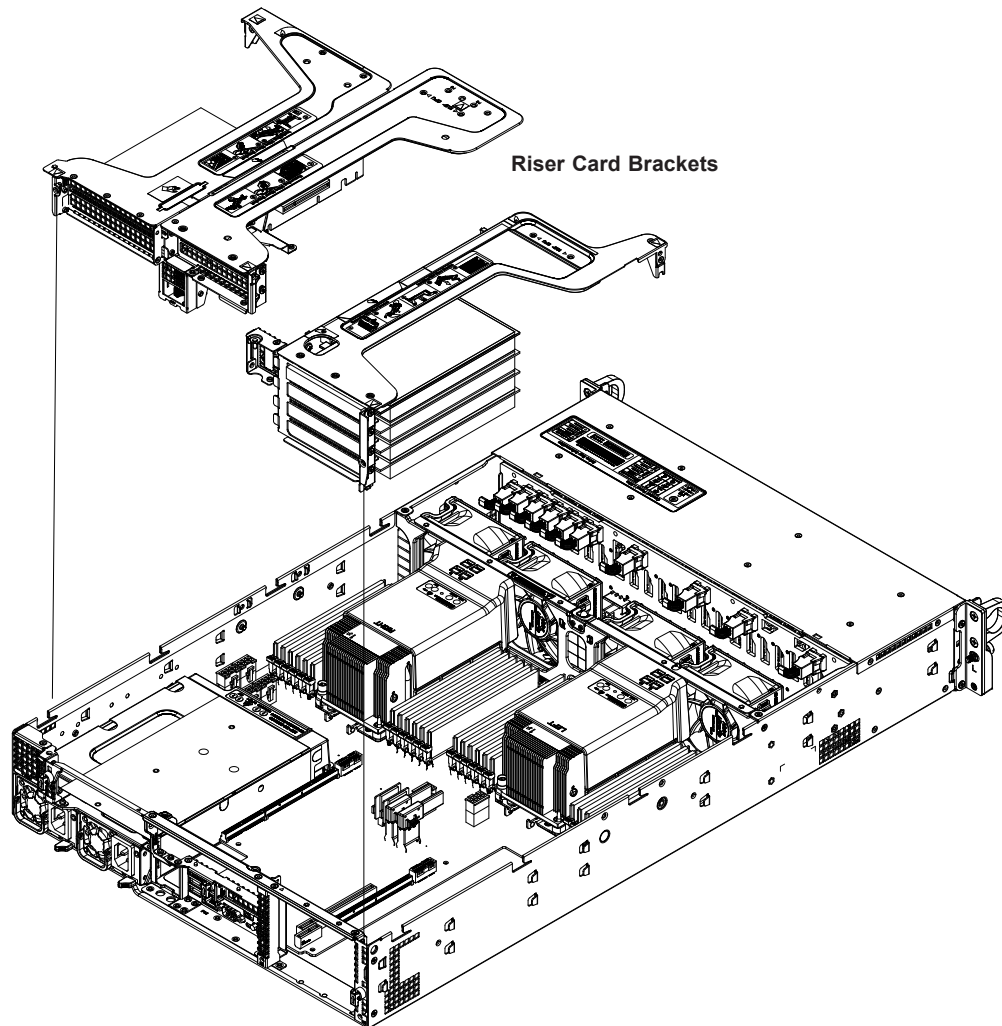

Figure 3-16. Installing Expansion Cards
1. Remove the left WIO riser card as described in Figure 3-16.